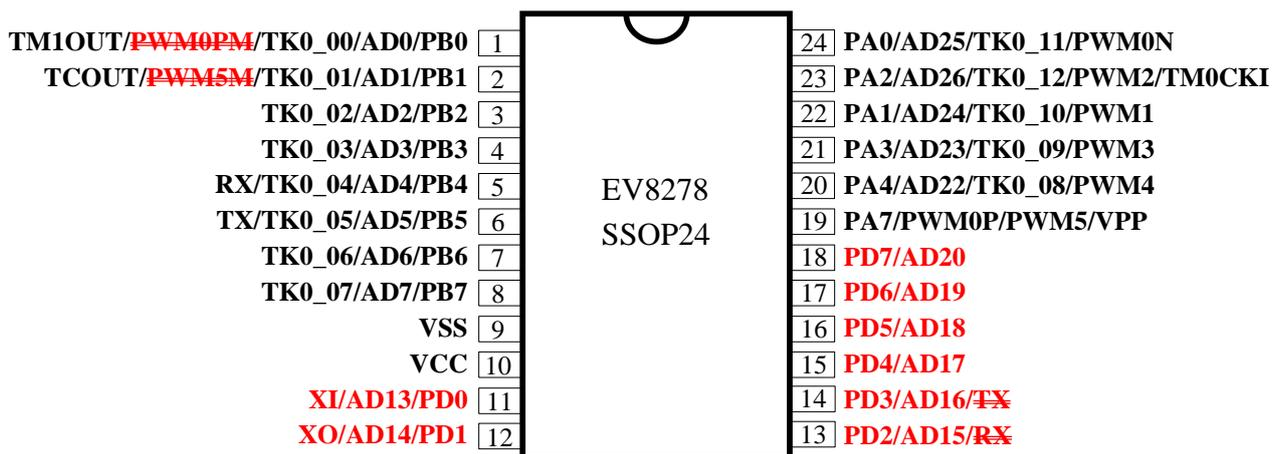

图 6-11-1 EV8278 SSOP24
10. The pin order of Pins 11~18 and Ports D7~0 of SSOP24 differs from the mass-produced package, including the multiplexed function pins XI, XO, ADC, TX, and RX. Please refer to Figure 6-11-1 below for detailed pinout information. Strikethrough indicates functions that EV cannot simulate, and red text indicates pins with different ordering.